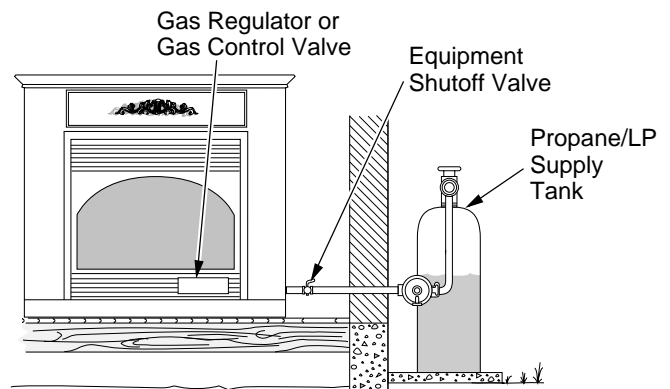

Figure 24 - Checking Gas Joints (Propane/LP Only)
3. Check all joints from gas meter to equipment shutoff valve for natural gas or propane/LP supply to equipment shutoff valve for propane/LP (see Figures 24 or 25). Apply noncorrosive leak detection fluid to all joints. Bubbles forming show a leak.
4. Check all joints from equipment shutoff valve to gas regulator (Thermostat-Controlled Models), or to gas control valve (Remote-Ready Models) (see Figures 24 or 25). Apply noncorrosive leak detection fluid to all joints. Bubbles forming show a leak.